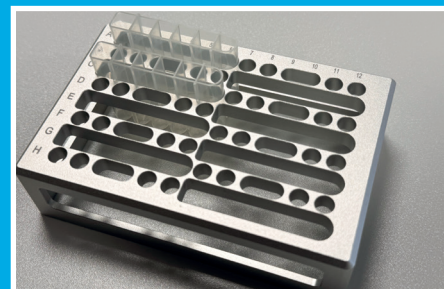

Fig. 1
4. Insert one Go Cartridge per sample into the Go Cartridge Holder and remove the seal (Fig. 1)